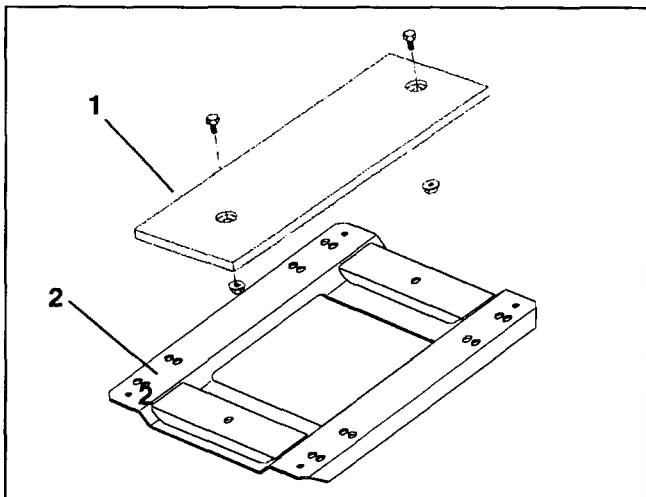

Figure 5
Note: For operators that are lightweight, (less than 150 pounds) and short in stature (less than 5'4" tall), an optional weight kit (Toro part no. 80–4210) for seat model 30796 is available from your Authorized Toro Distributor. Mount weight to top of seat plate with (2) capscrews and flange nuts as shown in Figure 5. When using weight, seat slide adjusters should be mounted in the forward set of holes provided in seat plate to insure seat can be positioned forward enough to provide comfortable operation and control of the mower.